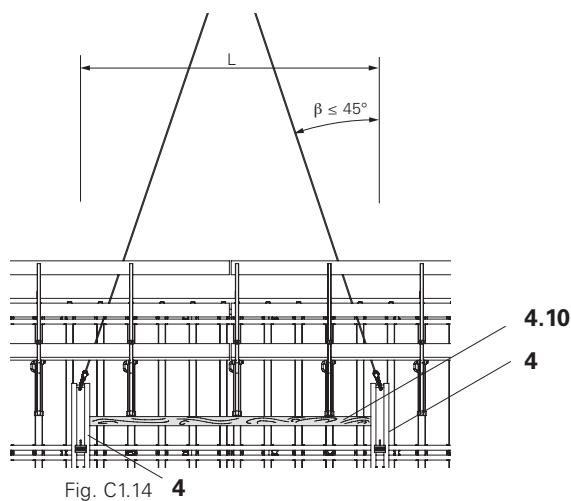

Fig. C1.14 4
In order to prevent the Strongbacks from being pulled out of line during the lifting process due to the redirection of forces, clamp a suitable piece of timber (4.10) as a compression brace between the top ends of the Strongbacks (4). (Fig. C1.14)